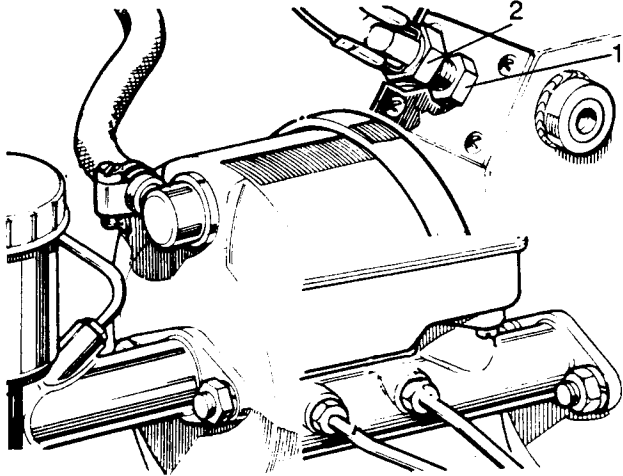

Fig K1.2
- (2) Refer to Fig K1.2. If the brake stop lights do not come on after 19 to 25 mm of brake pedal travel, reset the switch by loosening the locknut (1) and screwing the switch (2) out until the correct travel is achieved.
- (3) If the stop lights still do not come on after resetting to 19 to 25 mm of pedal travel, either the switch or the electrical circuit may be faulty. Check and rectify the fault or replace the switch.